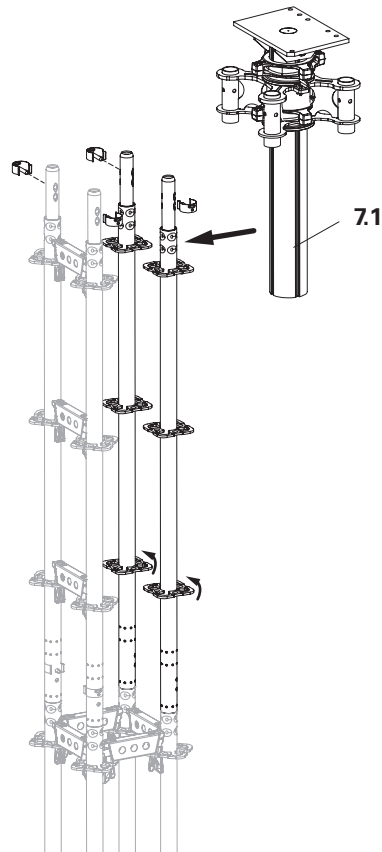

Fig. A1.07
4. Push the spindle tube (7.1) between the rosettes of the turned standards and put the head spindle on the standards. (Fig. A1.07)